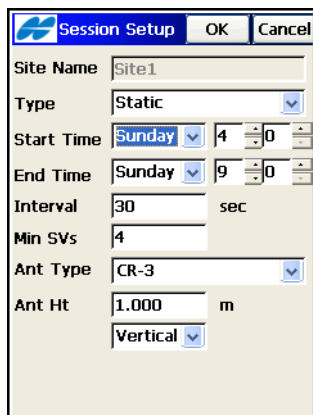

Figure 6-51. Session Setup
- **Edit** – press to edit the existing session. The *Session Setup* screen opens (Figure 6-51 on page 6-46).
- **Add** – press to create a new session. The *Session Setup* screen opens (Figure 6-51 on page 6-46).
The *Session Setup* (Figure 6-51) screen contains the parameters of the session.